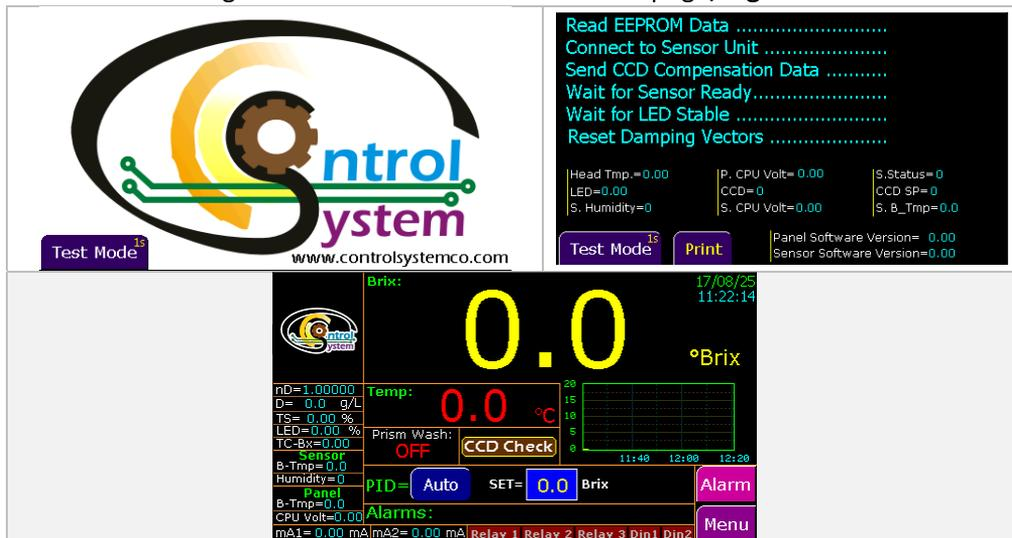

Figure 5-1 Refractometer Startup pages
3. The Main display should come up on the display after ControlSystemco logo and checking the hardware in hardware check page, **Figure 5-1**
4. In case the display shows an alarm indicating “sensor communication error”, there is no corresponding sensor (for example in Figure 5.1, upper left, there’s no sensor)